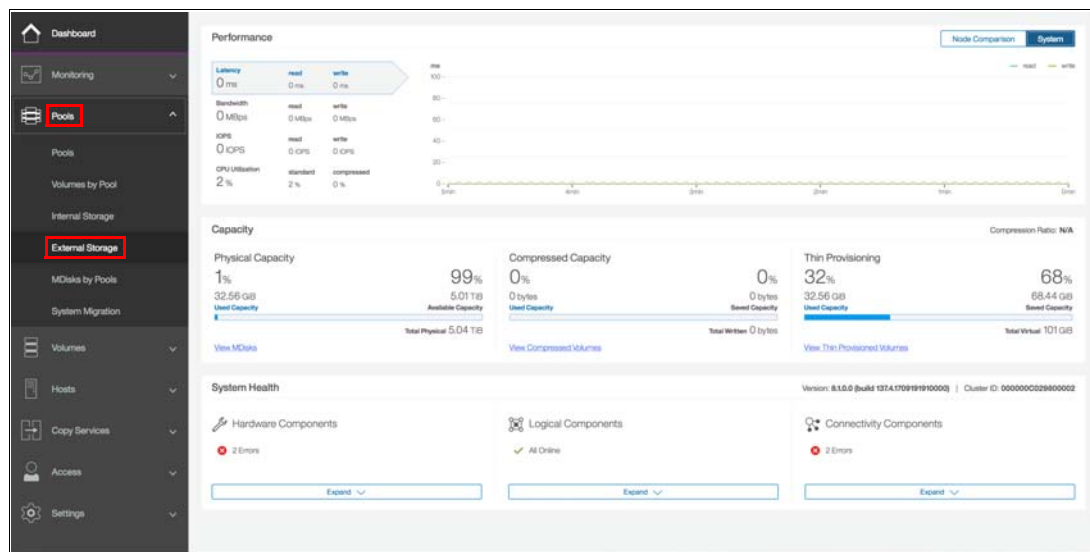
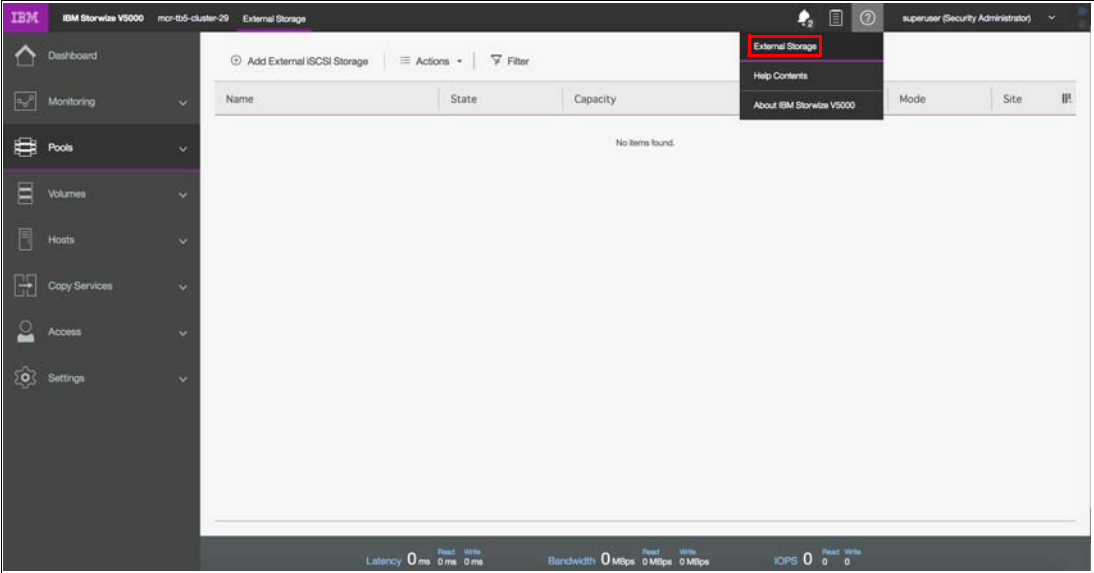

Figure 11-2 Selecting the external storage
Figure 11-16 Extended help for external storage
- Verify that the Lenovo Storage V5030 discovered the LUNs as unmanaged MDisks. To get to the external storage pool panel, select **External Storage** from the Pools menu as shown in Figure 11-2.
You can access the external panel by clicking **Pools** → **External Storage**, as shown in Figure 11-2 on page 612. Extended help information for external storage is available by clicking the help (?) icon and selecting **External Storage**, as shown in Figure 11-16.